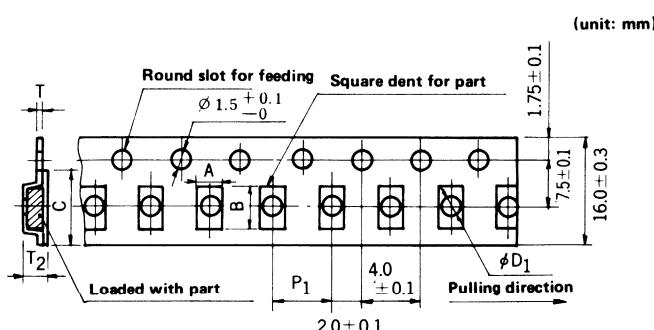

Fig. 6 Embossed taping types TE1604, 1608 and 1612
b) Types TE1604, 1608, 1612 (Fig. 6)